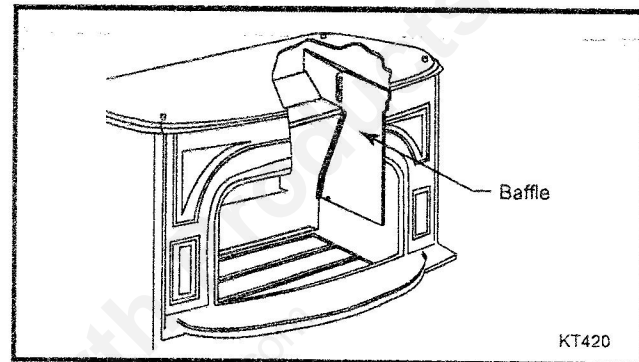

Fig. 3 Lift baffle straight up about 1". Top rear corner of the baffle will slide into a groove on the back of the stove.
5. Lift the baffle straight up about 1". The top rear corner of the baffle will slide into a groove on the back of the stove. If you have trouble lifting the baffle up, check to be sure the slot in the back of the stove is clear of any soot or creosote, and make sure the top of the baffle lines up with the slot. (Fig. 3)